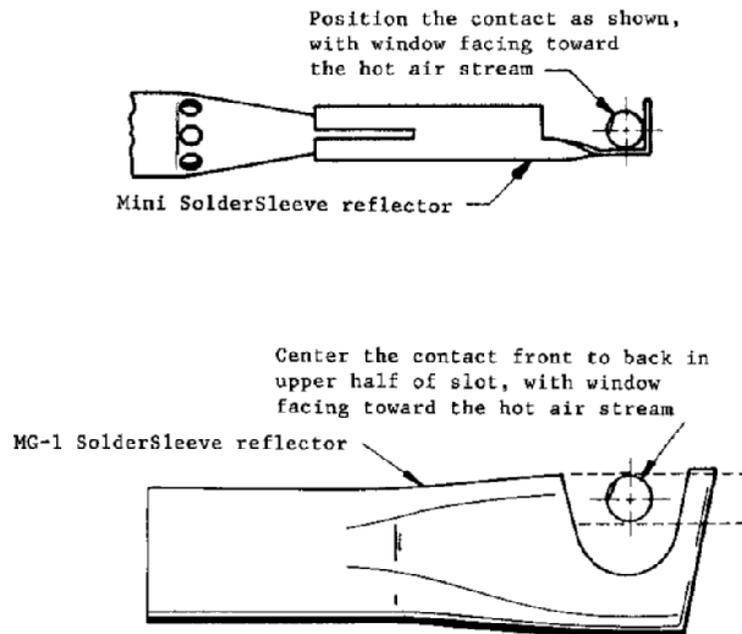

Figure 5-11. Contact Positioning in Heating Tool Reflectors
- Position the contact in the heating tool reflector as shown in Figure 5-11, so that the inspection window nearest the middle of the contact is centered in the reflector.